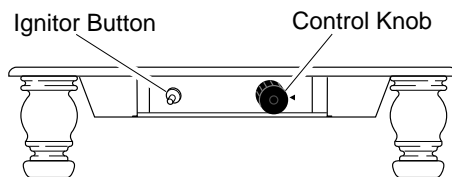

Figure 21- Control Knob and Ignitor Button Location
4. Wait five (5) minutes to clear out any gas. Then smell for gas, including near the floor. If you smell gas, **STOP!** Follow "B" in the safety information, column 1. If you don't smell gas, go to the next step.
5. Turn control knob counterclockwise  to the PILOT position. Press in control knob for five (5) seconds (see Figure 21).